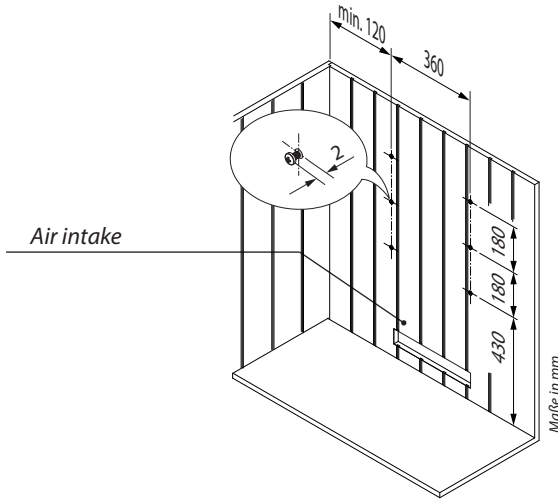

Fig. 3
- Attach the enclosed spax screws in the centre of the cabin wall above the air intake as shown in Fig. 3. There must be a clearance of approx. 2 mm between the screw head and the cabin wall in order to attach the sauna heater.